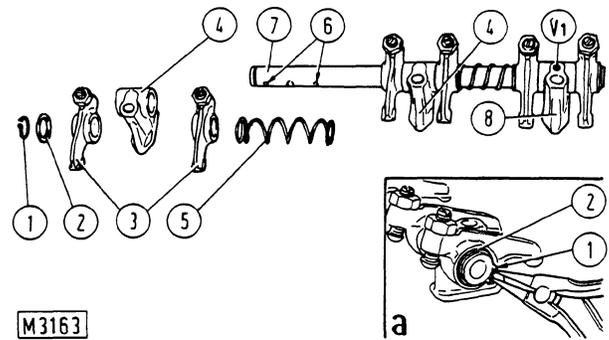

Fig. 21 - Removing (installing) retaining clip (a) and dismantled parts of a rocker arm shaft.
Rocker arms are hinged on two separate shafts. To remove end bearing (8, fig. 21) from shafts remove screw (V_1).
Reinstall rocker arm shafts arranging components as shown in fig. 21 and considering the following :
- make sure holes (6, fig.21) and relevant oil galleries are not clogged ;
- install supports (8) on the shaft ends and secure them by means of screws (V_1).